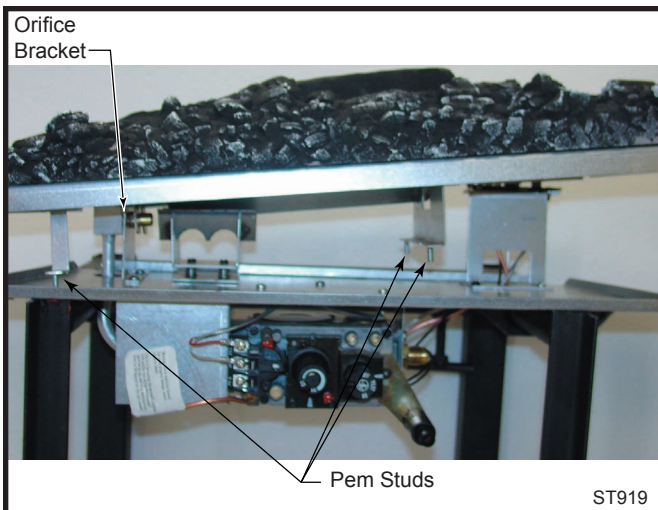

Fig. 75 Tilt ember bed slightly to correctly place on venturi and air shutter.
2. Carefully remove ember bed by tilting the right side up and lifting out toward the right side of the unit. (Fig. 75)
1. Replace burner making sure venturi on bottom of ember bed aligns with orifice and is seated properly on air shutter assembly. (Fig. 75) Make sure burner is slid into place at a slight angle and opposite to how it was removed. When burner is slid into place, the three (3) pem studs should slide down through clearance holes into the bottom of the control panel.